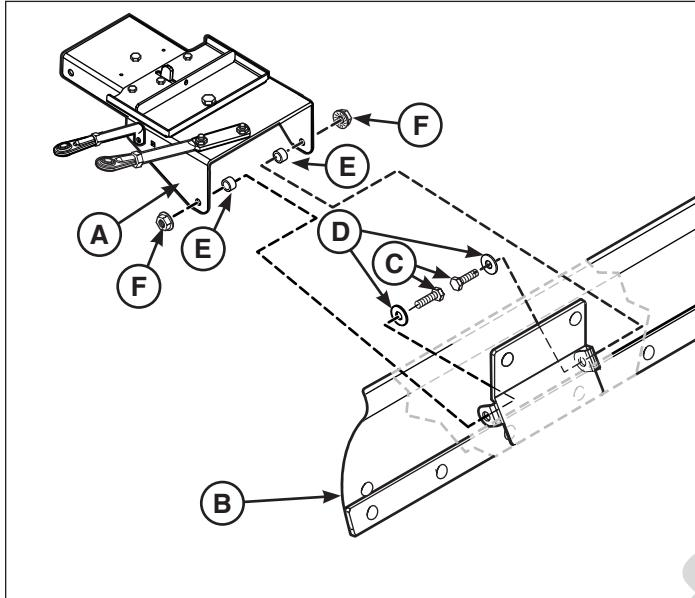

Figure 7
1. Attach the hitch lift assembly (**A**, Figure 7) to snow blade assembly (**B**) using 1.25" cap screw (**C**), washer (**D**), spacer (**E**) and nut (**F**).